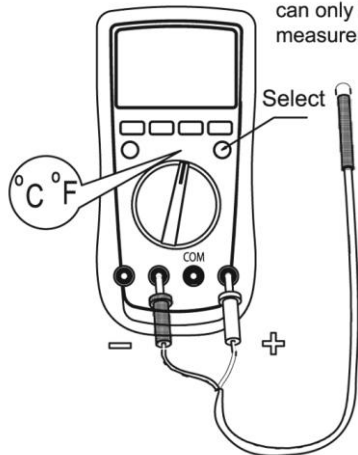

figure 9
H. Temperature Measurement (GDM-397 only) (see figure 9)
2. Insert the temperature probe into the input terminal as shown on the figure 9.